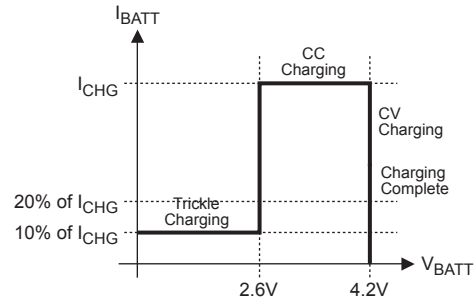

Figure 2—MP2605 Typical Charging Profile
Figure 2 shows the typical charging profile for the MP2605. For a fully depleted battery with a terminal voltage lower than 2.6V, the MP2605 will start with the trickle charge (preconditioning) at 10% of the full charge current based on the value of R_{CHG} . If the charger stays in trickle mode longer than 32768 cycles, the battery fault condition will be indicated by flashing the \overline{CHG} LED. After the battery voltage reaches 2.6V, the charger begins charging using the programmed charge current (I_{CHG}). This is referred to as Constant Current (CC) mode. Once the battery voltage reaches 4.2V, the charger will operate in the constant voltage (CV) mode until the battery is fully charged. The charge current drops during CV mode, and the battery full indication is set when the charge current is reduced to 20% of the programmed constant current value (I_{CHG}). The charge process is then terminated. Recharge will start after the battery voltage is reduced to 4.0V. After 262144 cycles of continuous charging, if the battery still has not reached 20% of the I_{CHG} condition, the on-chip timer will terminate the charger to prevent charging the dead battery excessively and the fault condition will be flagged by flashing the \overline{CHG} LED.